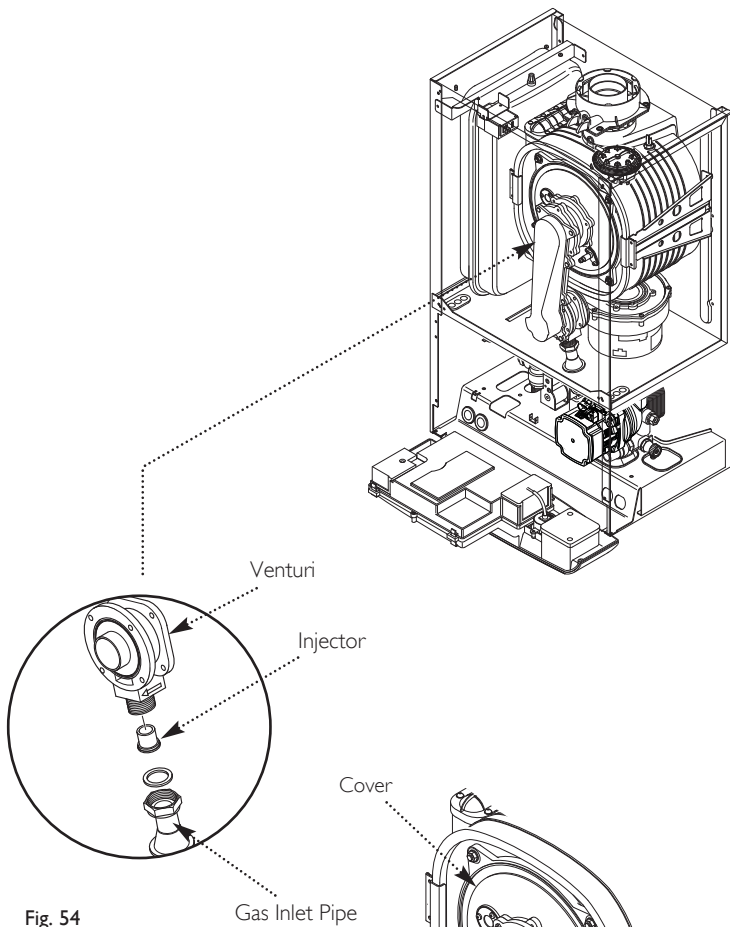

Fig. 54
### 13.4 Fan (Fig. 54)
1. Undo the nut on the gas inlet pipe to the venturi (Fig. 54) and pull the sensing pipe off the fan.